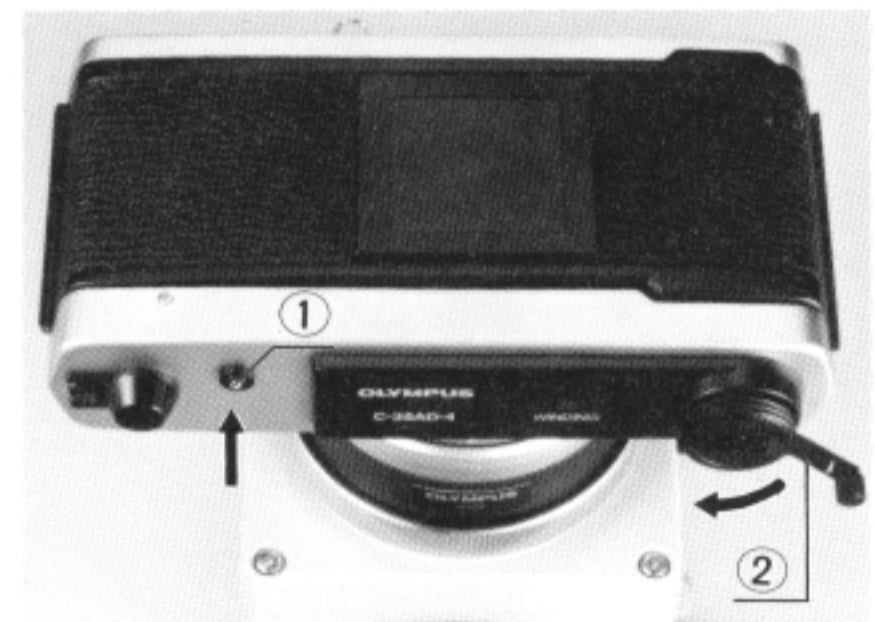

Fig. 18
- 2) Press the rewind button ① atop the camera back. (Fig. 18)
- 3) Fold out the rewind crank ② and wind it in the direction of the arrow (clockwise). (Fig. 18) While rewinding, you will feel tension. When the tension stops and the crank turns freely, the film has been completely rewound back into the cartridge.